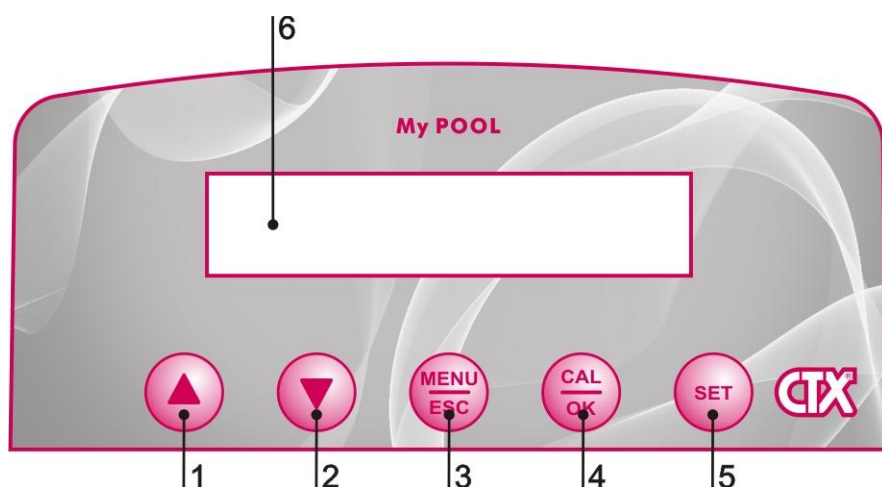

Fig. 4
- d.- Slide the hoses over the nipples, pushing them right home and then fix them with appropriate tube nuts (Fig.4). Before attaching the delivery hose to the plant, prime the peristaltic pump by going through the sequence shown in fig. 5. In case of priming difficulties, use a normal syringe to suck liquid from discharge nipple while the pump is in operation, continuing until you actually see the liquid rise in the syringe. Use a short length of suction hose to connect the syringe to the discharge nipple.